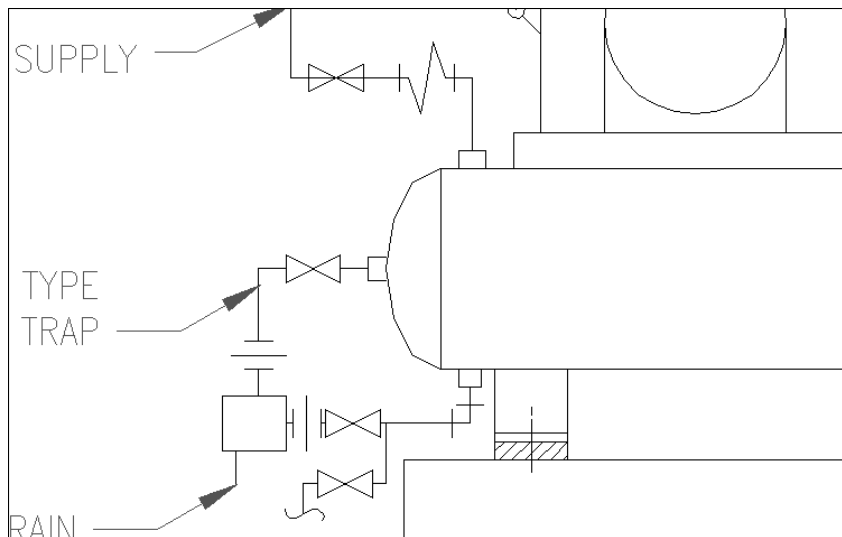

**Figure 10-17:** The completed clamp in two views.
9. Save your drawing. It should look like Figure 10-17.